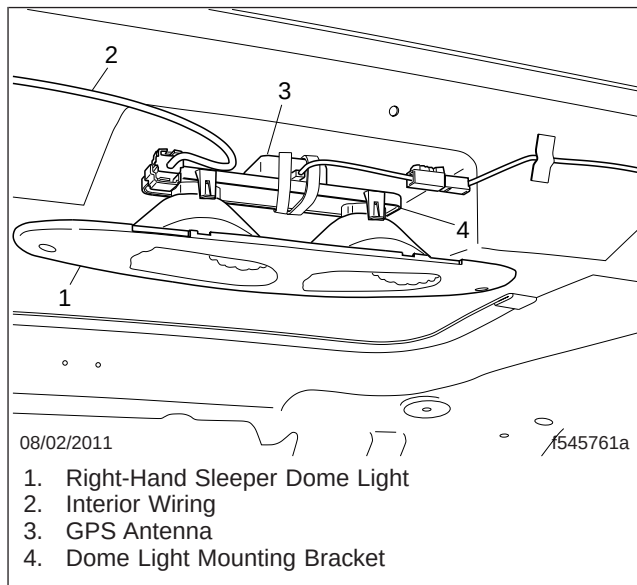

Fig. 1, Dome Light Connections
3. Disconnect the GPS antenna from the antenna cable. See Fig. 1.